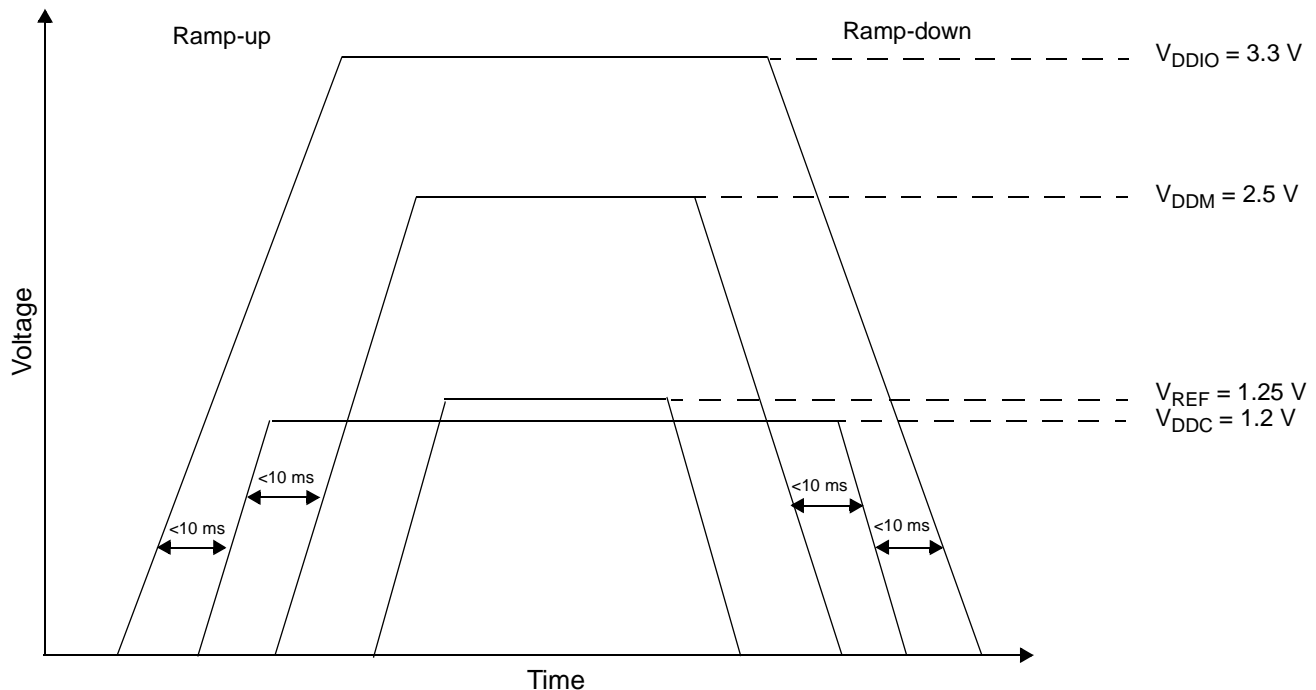

Figure 26. Voltage Sequencing Case 1
- Refer to **Figure 26** for relative timing for power sequencing case 1.